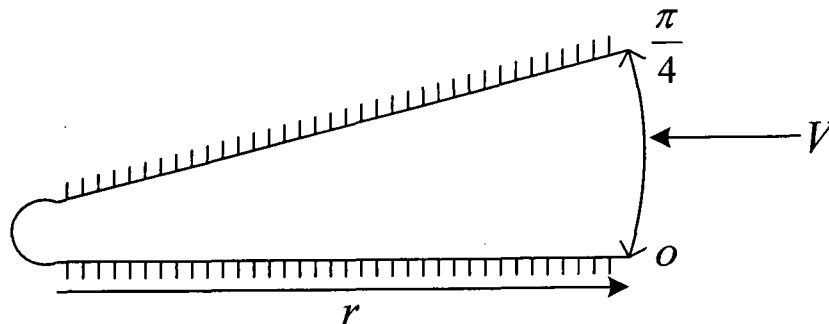

Figure Q4[b]
- [b] An inviscid, incompressible fluid flows between wedge-shaped walls into small opening as shown in Figure Q4[b]. The potential velocity (in m²/s), which approximately describes this flow is